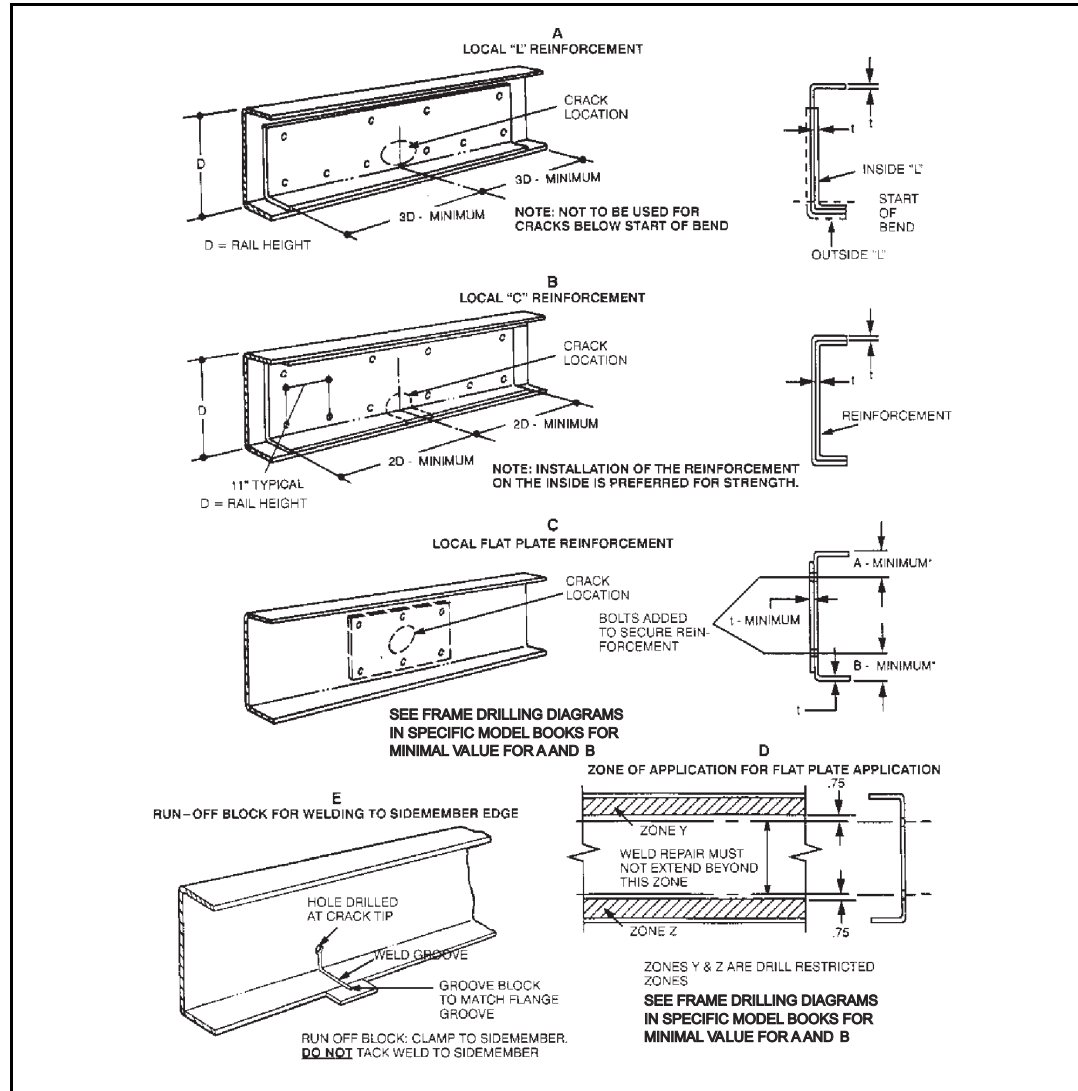

Figure 2.5 Reinforcement Application
THE TYPE, LENGTH, MATERIAL AND ATTACHMENT TECHNIQUES FOR REINFORCEMENTS VARY WITH THE TYPE AND LOCATION OF THE CRACK AND WITH THE LOADING CONDITIONS ASSOCIATED WITH THE CRACK. It is not practical to give specific recommendations for all cases of frame cracking, therefore the various types of reinforcements are identified with general descriptions of their applications and installation procedures. To aid in making the distinctions between the more critical flange area and the less critical web area, critical zones are defined as shown (Figure 2.5 D).
Steps 1 and 2 above also apply to the full length “L” reinforcements available from International. All of these are the inverted “L” type and are designed for installation on the outside of the sidemember section (except 9000 Series) (Figure 2.5 A).
This type of reinforcement must be custom-fabricated either by cutting lengths from “full length” reinforcements or by forming from flat stock (Figure 2.5 B).
2. Figure 2.5 B gives recommended dimensional data and attachment specifications for a typical installation. Holes drilled for the attachment must be within the frame drilling guidelines in the specific model body builder book.
This type of reinforcement is recommended for cases in which the weld repair is confined to the web of the section but extends beyond the application zone of the flat plate reinforcements shown in Figure 2.5 D.
1. Figure 2.5 A shows a typical installation for an “L” reinforcement on the inside of a sidemember section along with minimum recommended dimensions.
This reinforcement is intended for the less critical, web portion of the sidemember section where typical cracking is due to local stresses which tend to “diaphragm” or “dish” the web without creating appreciable stresses for overall bending of the section. Typical crack patterns radiate out from the edge of a mounting bracket or crossmember or from a hole in the web. Cracks which radiate from a web hole occupied by a fastener are frequently an indication of a defective joint, whether by the loosening of the fastener or poor joint design (Figure 2.5 C).
The flat plate reinforcements are recommended for weld repairs in which the weld does not extend beyond the zone defined in Figure 2.5 D.
1. A typical installation is shown in Figure 2.5 C. The length and height of the plate will vary with the size of the weld repair area. In general it should be such that it will accommodate an array of reinforcement attachment bolts at a typical 3 to 5 inch (76 to 127 mm) spacing all around the weld repair area.
In those instances when it is necessary to cut and weld the frame to alter the wheelbase, the frame must be reinforced with a channel-type reinforcement of the same strength as the original frame material in the area where the frame has been cut, extending at least two feet on either side of the cut and bolted as specified in Figure 2.5 D shown earlier in this section.